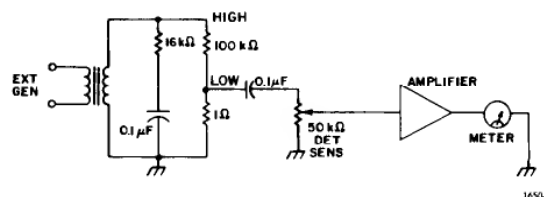

Figure 6-3. Schematic for checking the detector circuit.
- Connect an external oscillator (1 kHz) to the EXT GEN jack. Turn the CGRL control full cw. This sets up the circuit of Figure 6-3.
Use the setup of Figure 6-3 and measure the rms voltage between the HIGH terminal and the case. With the oscillator level full cw it should be within the range of 0.9 V to 1.1 V.